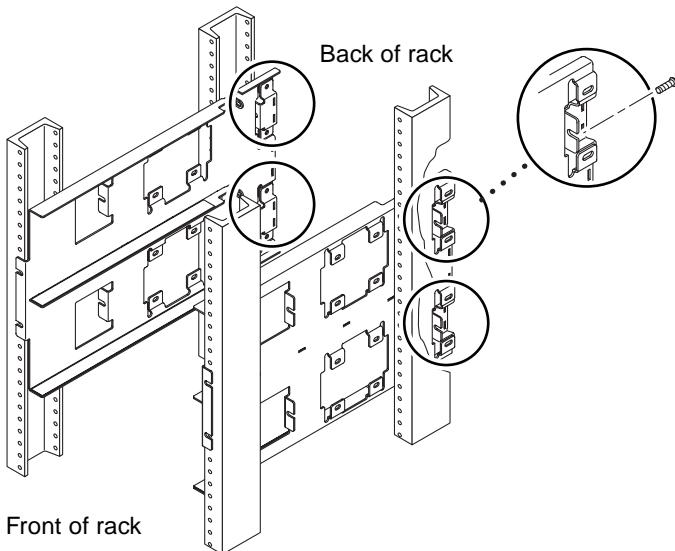

FIGURE 7 Securing the Back of the Side Rails
- c. **Secure the back of the rail (FIGURE 7) using two screws (part number 240-3840-01) provided in the rackmount kit.**